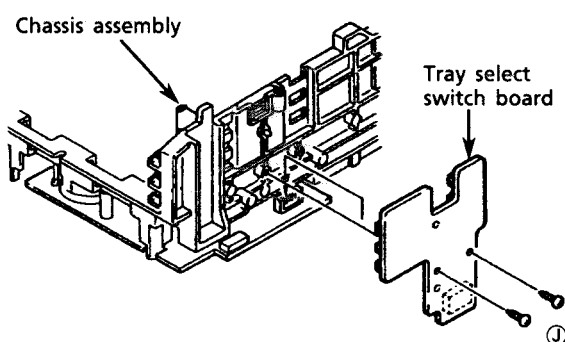

Fig. 32
5. Remove 2 screws ① securing the tray select switch board. (See Fig. 32.)